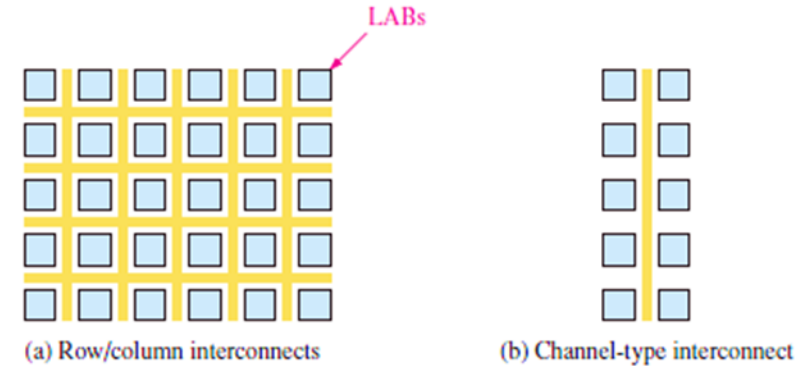

FIGURE 3 LUT CPLDs have row/column interconnects. Classic CPLDs have channel-type interconnects.
- ❑ As mentioned, the LUT CPLD has a row/column arrangement of interconnects instead of the channel-type interconnects found in most classic CPLDs. These two approaches are contrasted in Figure 3